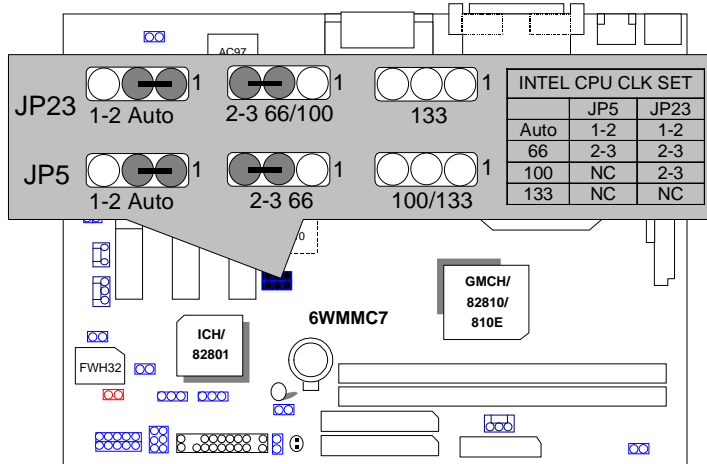

Figure-1
**JP5 /JP23: System Bus Speed Set System Bus Speed (See Figure-1)**